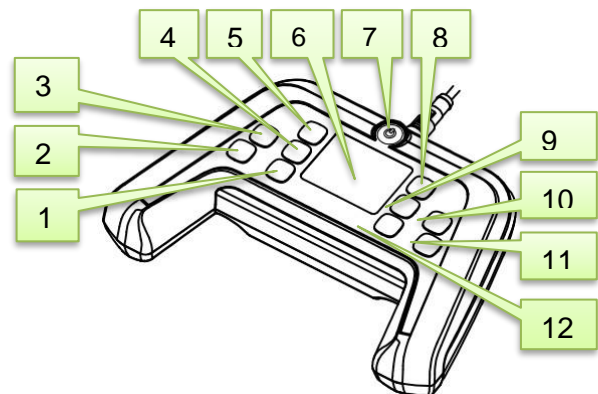

Figure 6-1 J-Touch controller
1. Connect the J-Touch (Figure 6-1) using the data cable on the J-Link.